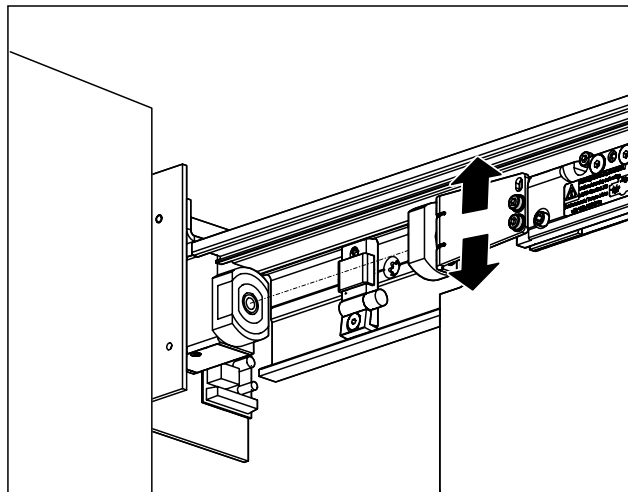

Fig. 12 Ensure that the hold-open magnet is aligned.
3. Align the hold-open magnet and anchor exactly parallel to each other (Fig. 12).
4. To do so, loosen the screws of the anchor plate holder on the roller carriage and vertically align the anchor plate holder (Fig. 12).